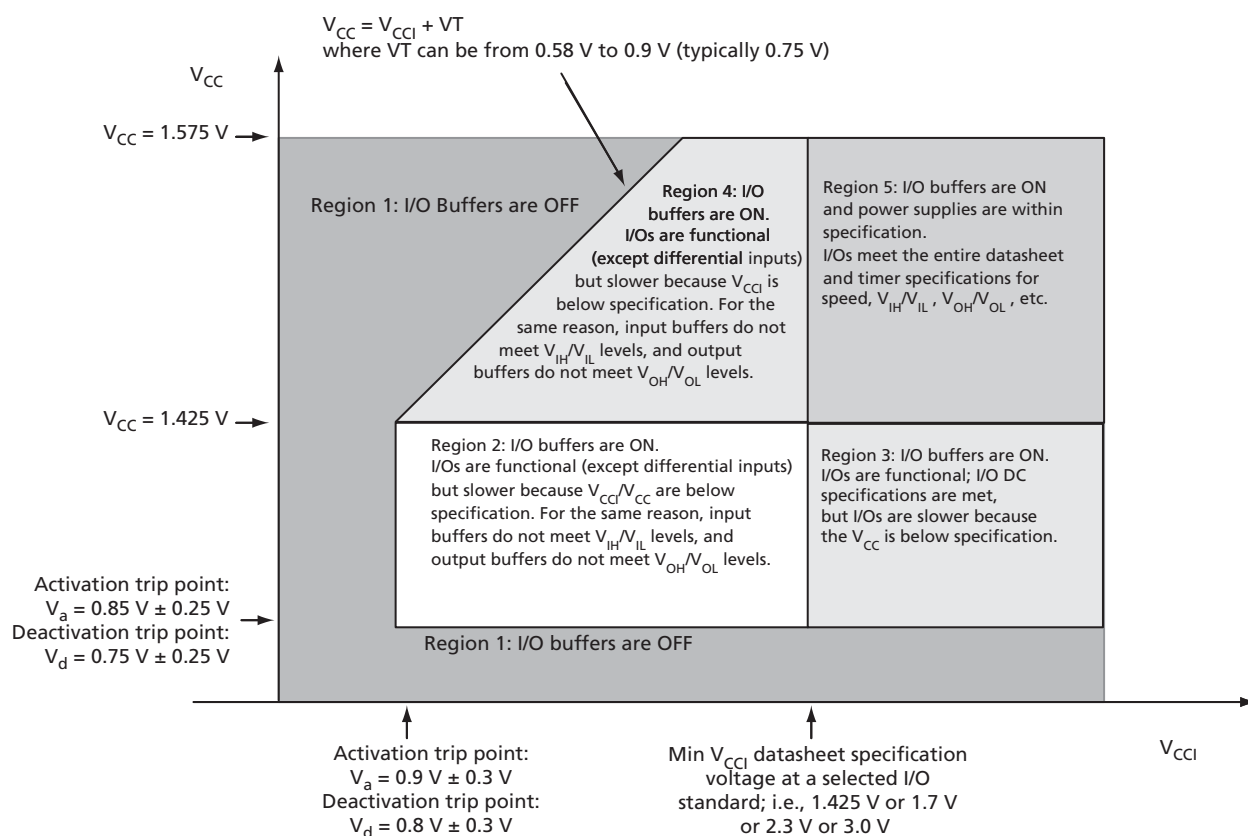
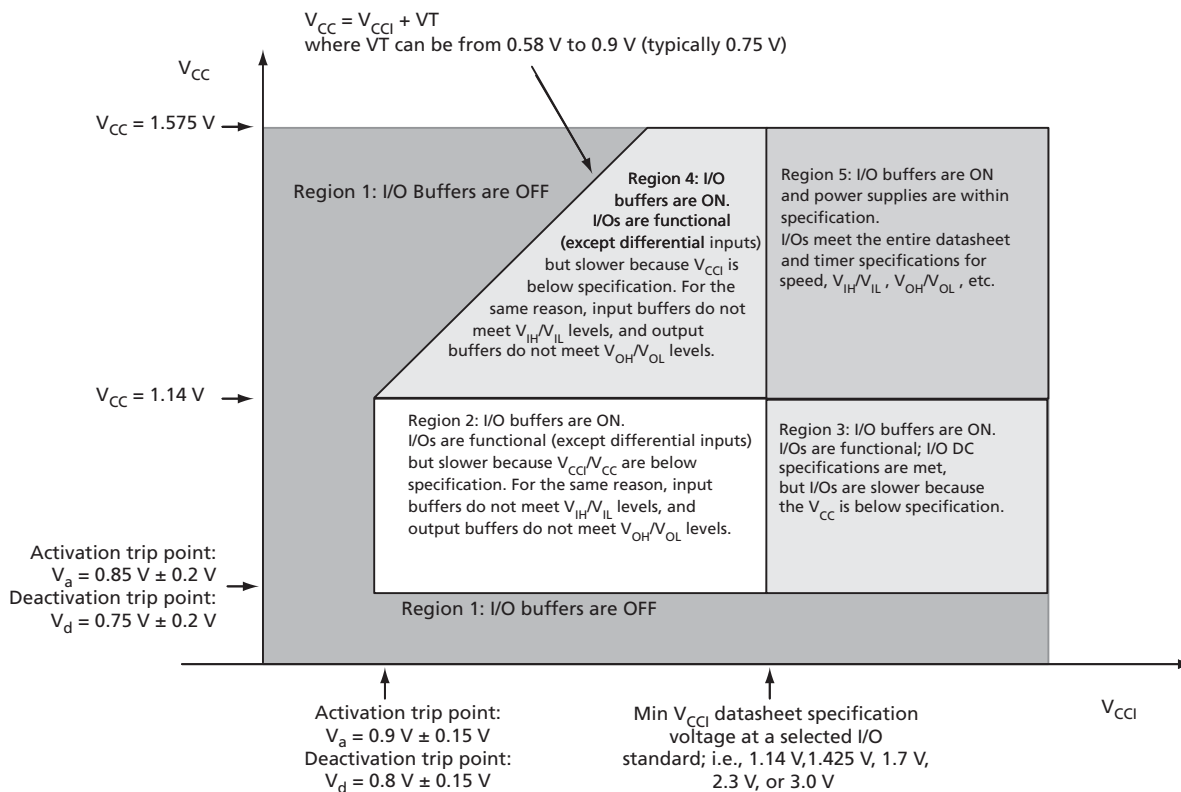

Figure 2-1 • V5 Devices – I/O State as a Function of V_{CCI} and V_{CC} Voltage Levels
Figure 2-2 • V2 Devices – I/O State as a Function of V_{CCI} and V_{CC} Voltage Levels
Sophisticated power-up management circuitry is designed into every ProASIC3 device. These circuits ensure easy transition from the powered-off state to the powered-up state of the device. The many different supplies can power up in any sequence with minimized current spikes or surges. In addition, the I/O will be in a known state through the power-up sequence. The basic principle is shown in Figure 2-1 on page 2-4 and Figure 2-2 on page 2-5.
1. V_{CC} and V_{CCI} are above the minimum specified trip points (Figure 2-1 on page 2-4 and Figure 2-2 on page 2-5).
Actel recommends using monotonic power supplies or voltage regulators to ensure proper powerup behavior. Power ramp-up should be monotonic at least until V_{CC} and V_{CCPLX} exceed brownout activation levels. The V_{CC} activation level is specified as 1.1 V worst-case (see Figure 2-1 and Figure 2-2 on page 2-5 for more details).